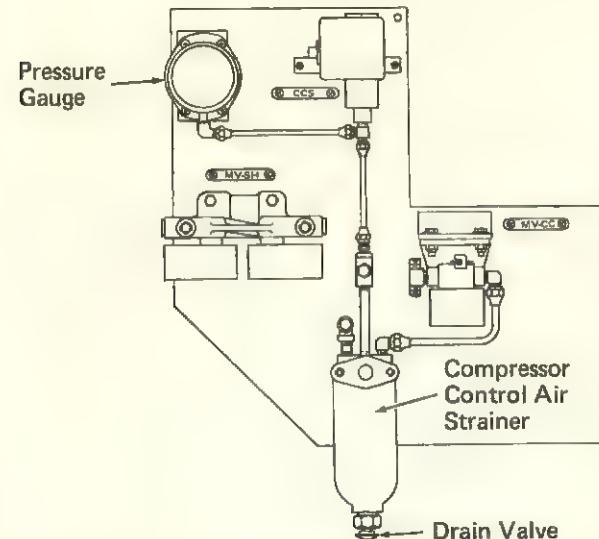

Fig. 3-6 – Compressor Control Strainer
4. Press up on the pushbutton at the base of the compressor control strainer drain, 4, Fig. 3-4 and Fig. 3-6.